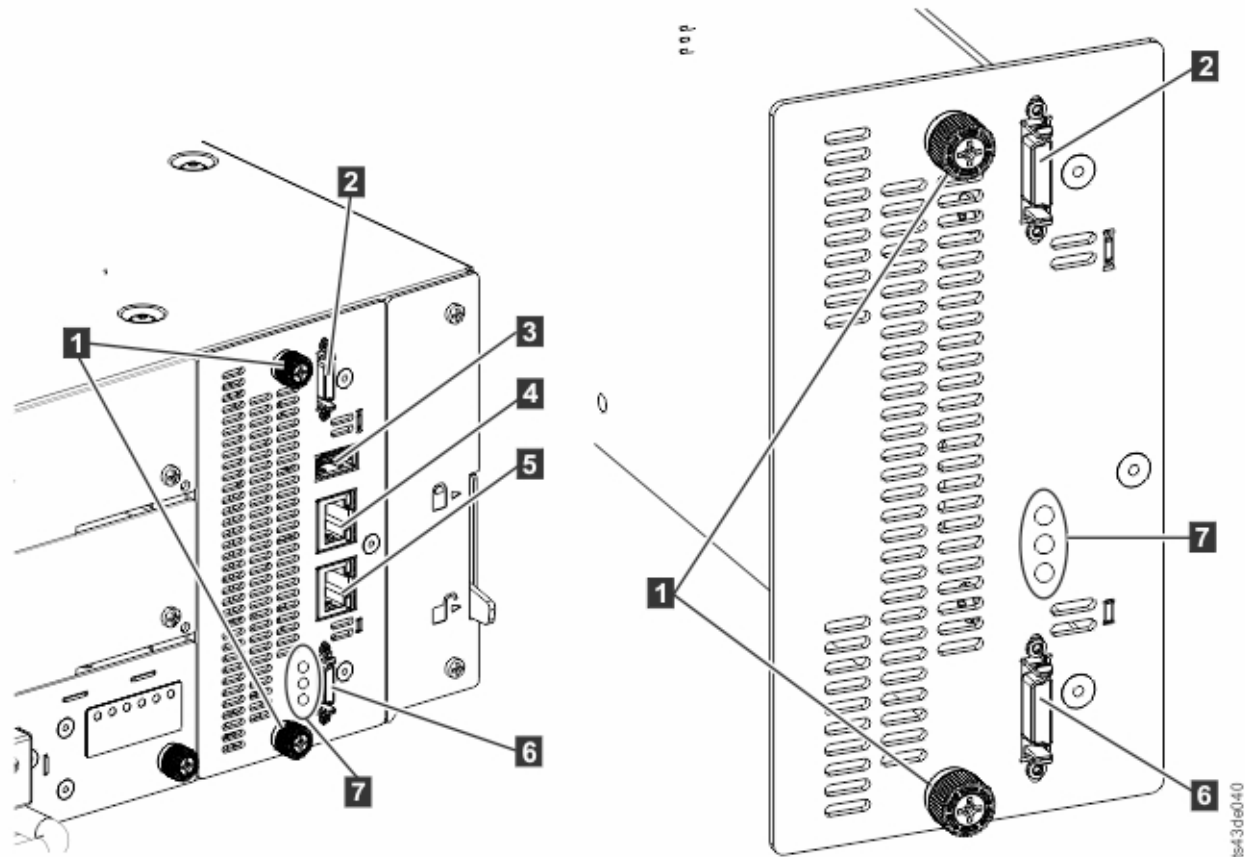

Figure 69. Controller card components
3. Remove the Ethernet cables (**4** and **5**) and the USB cable (**3**), if present. (An Expansion Module does not have Ethernet or USB ports. See Figure 69 on page 118).
4. Replace the expansion interconnect cables (**2** and **6**), the Ethernet cable or cables (**4** and **5**), and the USB cable (**3**) that were removed previously. (An Expansion Module does not have Ethernet or USB ports. See Figure 69 on page 118).